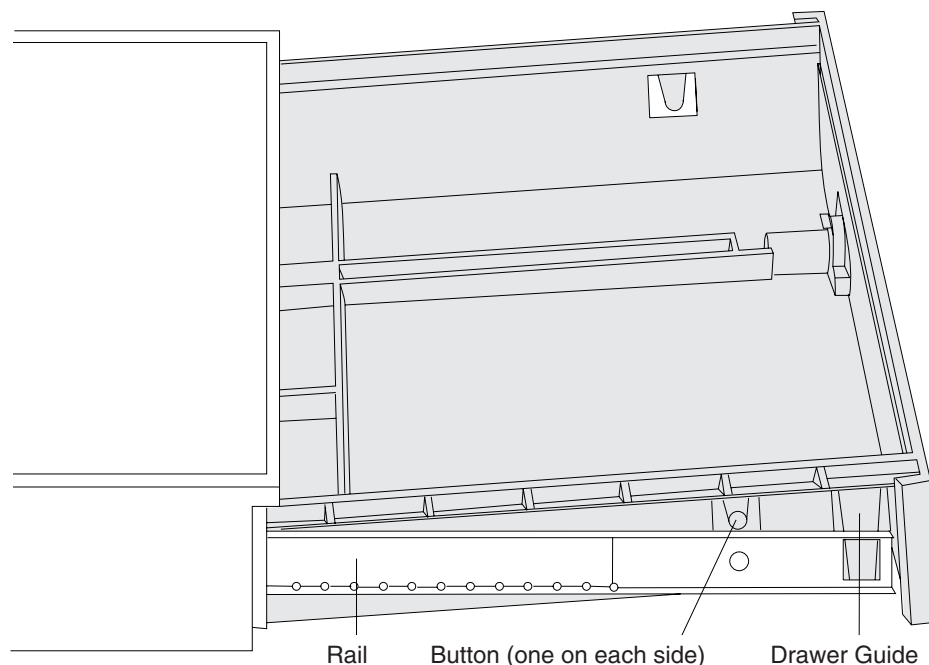

Figure 85. Removing and replacing a full size cash drawer
9. Push in on the buttons in the rails, as shown in Figure 85 on page 106, and pull up on the front of the drawer until the drawer is free from the slides. Pull the drawer forward out of the base.
3. Position the rear of the drawer into the slides so that the drawer guide on each side of the drawer aligns with the corresponding opening on each side, as shown in Figure 85.